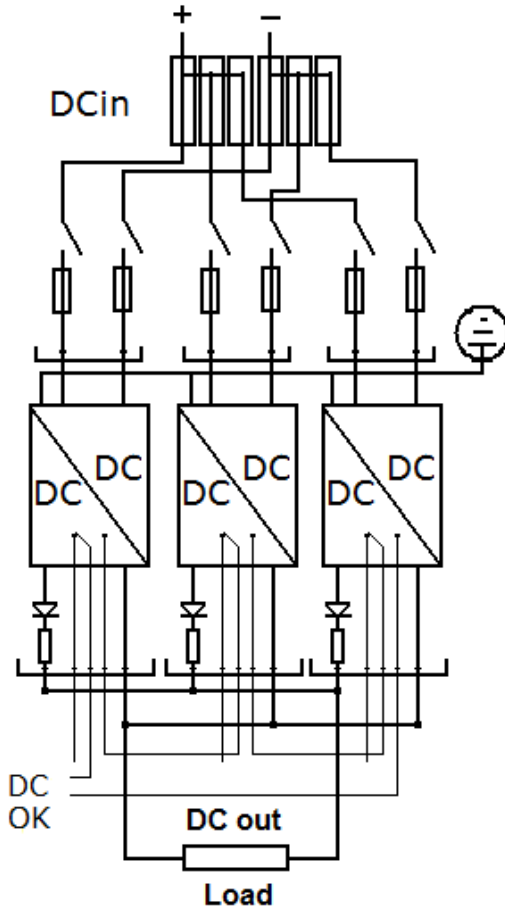

Figure 2. An N+1 system with two units for the load and one for the redundancy.
The *figure 2* shows a N+1 system with two units for the load and one for the redundancy. Each Power supply has a built in; series diode (C), balancing resistor (R) and alarm Relay option B. The alarm is cascade connected. Note that each DC/DC converter has individual external input fuses. With the CR option a hot plug-in can be achieved if the output voltage is correctly adjusted. Use instruction *section 3.6 -3 below.*